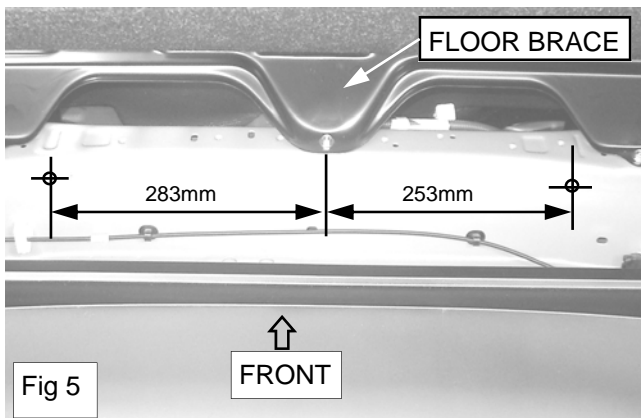

Fig 5
1. Remove cargo area floor cover and plastic bins under to expose metal floor brace shown in Fig. 5.
2. Measure and mark locations shown in Fig. 5.